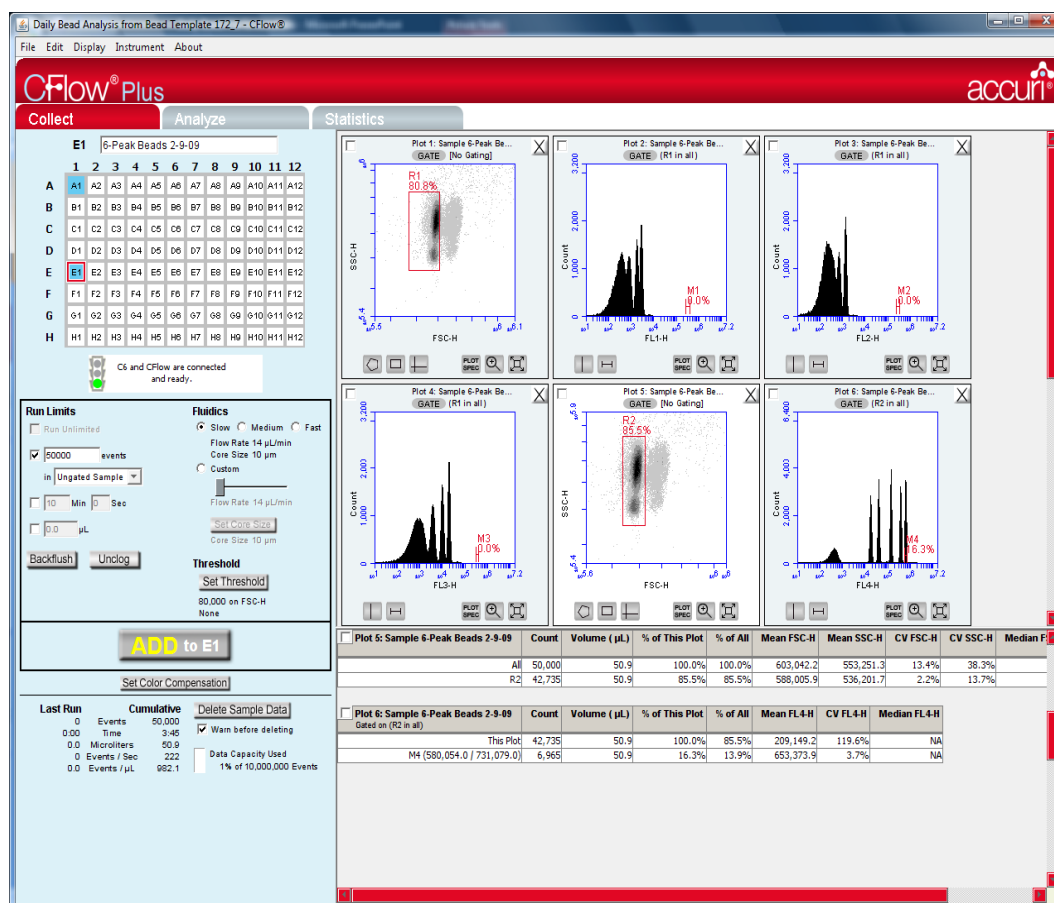

Figure 1-7 Example of 6-peak SPHERO APC Calibration Particles, shown in FL4-H. The peaks in FL1-H, FL2-H and FL3-H are not relevant.
7. Adjust the pre-drawn region R2 in the second FSC-H vs. SSC-H to encompass the main data peak similar to the procedure for the 8-peak beads. This population should look like an exclamation mark. The R2 region should encompass both major populations (Figure 1-7).
9. Adjust the **Marker** in the FL4-H plot to be tightly placed around the top (brightest) peak. Refer to Figure 1-7 for an example of good 6-peak bead data on a C6.